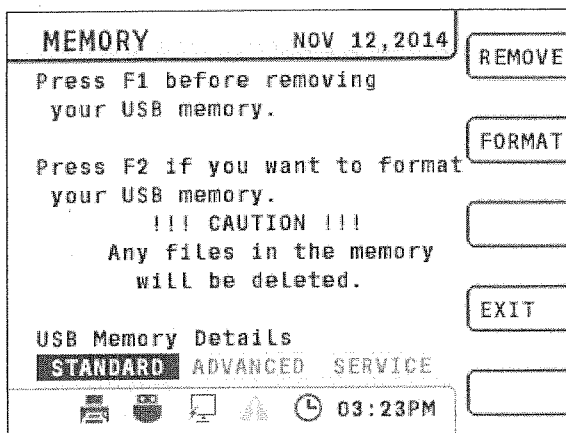

Fig. 9 MEMORY menu
- 1. Press the F1 key (REMOVE) on the MEMORY menu (Fig. 9).**